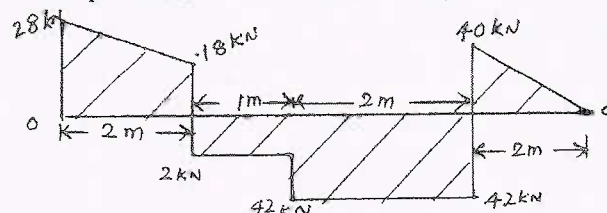

Fig. Q6 (b)
b. From the given shear force diagram, shown in Fig. Q6 (b) develop the load diagram and draw BMD. Also determine points of contraflexure if any. (12 Marks)